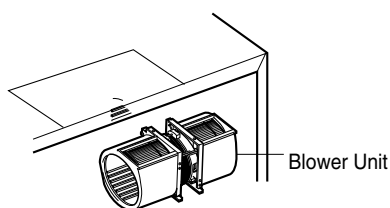

Figure 21
4. Rotate blower unit 90° so the exhaust ports face the upper of the cabinet. See Figure 21.